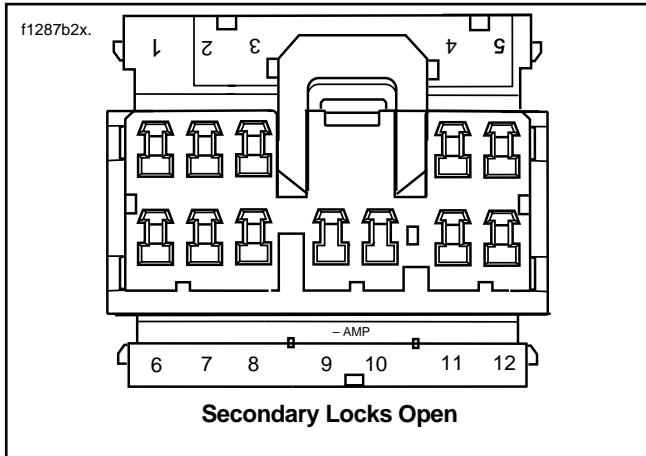

Figure 7. Terminal Numbers Stamped On Secondary Locks (12-place socket housing shown)
3. See Figure 7. Remove the following wires and terminals from connector [20] by following the procedure in step 4: